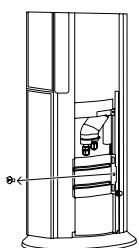

Fig.12
- Install the connection pipe at the right side of the unit body. Before installation, please remove one screw used for fixing the cover plate of connection and then you can remove the cover plate of connection pipe.(As show in Fig.12)